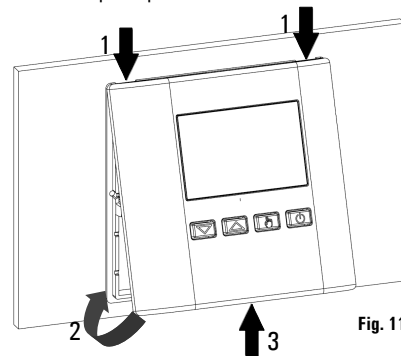

Fig. 11
- Close the upper side of the cover while, at the same time, slightly pressing with a finger the plastic tooth on the bottom side of the base making it lean towards the inner side of the thermostat (see the arrow in Fig. 11). Complete the rotation of the cover until the plastic tooth on the base snaps into position.